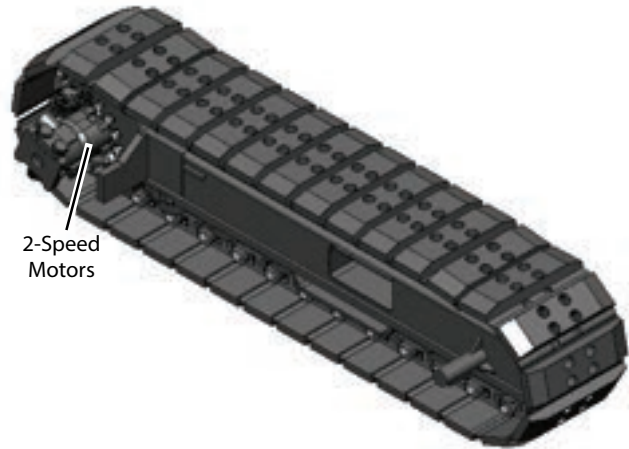

Figure 5-31. Two-Speed Hydraulic Motors
2. Disconnect, label and plug fittings on hydraulic hoses to the hydraulic motors. (**Figure 5-31**)